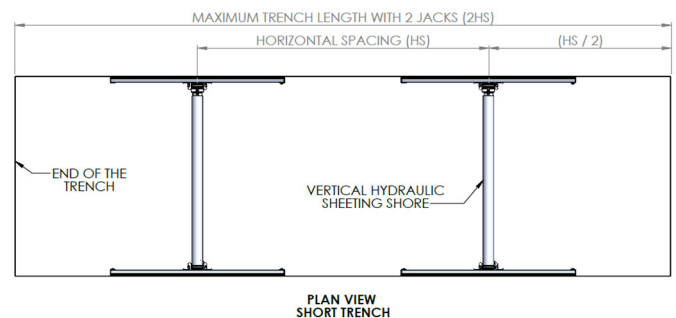

Figure 2: Short Trench, See Note 7.
7. Trenches 2 times the allowable horizontal shore spacing or less shall have a minimum of 2 shores set in accordance with spacing requirements. Trenches greater than 2 times the allowable trench spacing shall have a minimum of 3 shores set at required spacing. See **Figure 2**.